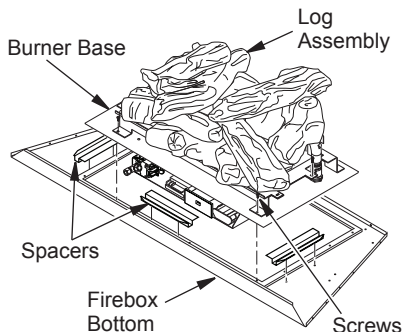

Figure 33 - Removing/Installing Burner Base
4. Remove 3 spacers from firebox bottom (see Figure 33).
6. Remove 9 screws from front and sides of firebox burner base. Lift entire base from unit by pulling forward to disengage from rear flange and then lifting up (see Figure 33).